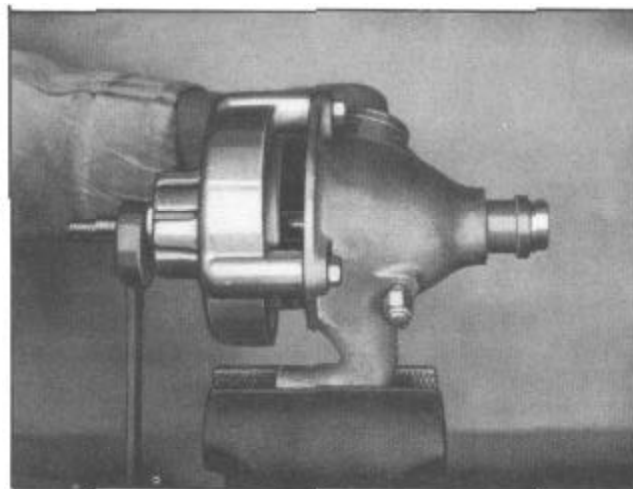

Figure 10--Installing Front Bushing
1. Install the front bushing so that it is just started into the water pump body and then insert the pilot (No.7) through the bushing and the water pump body as illustrated in Figure 10.